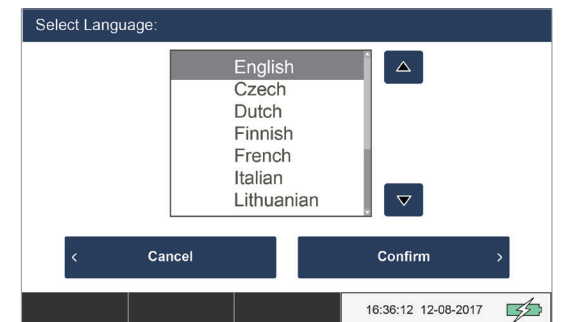

Figure 15 Select Language Screen
7. To change the language, press the globe icon on the *Enter Access Code* screen. Select your language using the *Up* and *Down* arrows. Then press *Confirm* (see Figure 15).